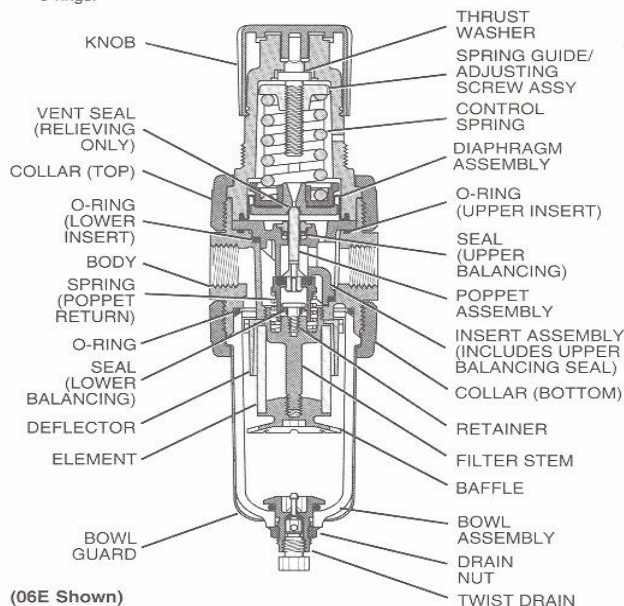

Figure 1: 05E, 06E, & 07E
A. 05E, 06E, & 07E Units - (Refer to Figure 1.)